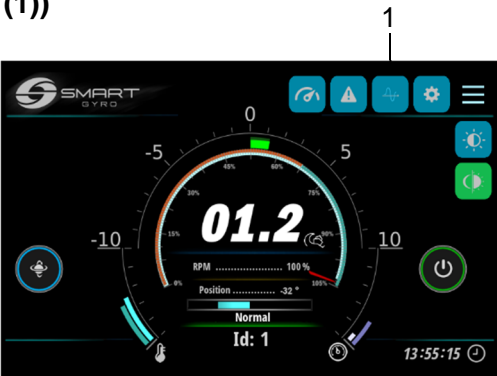

Figure 25
By pressing the Roll icon (**Figure 25, (1)**)